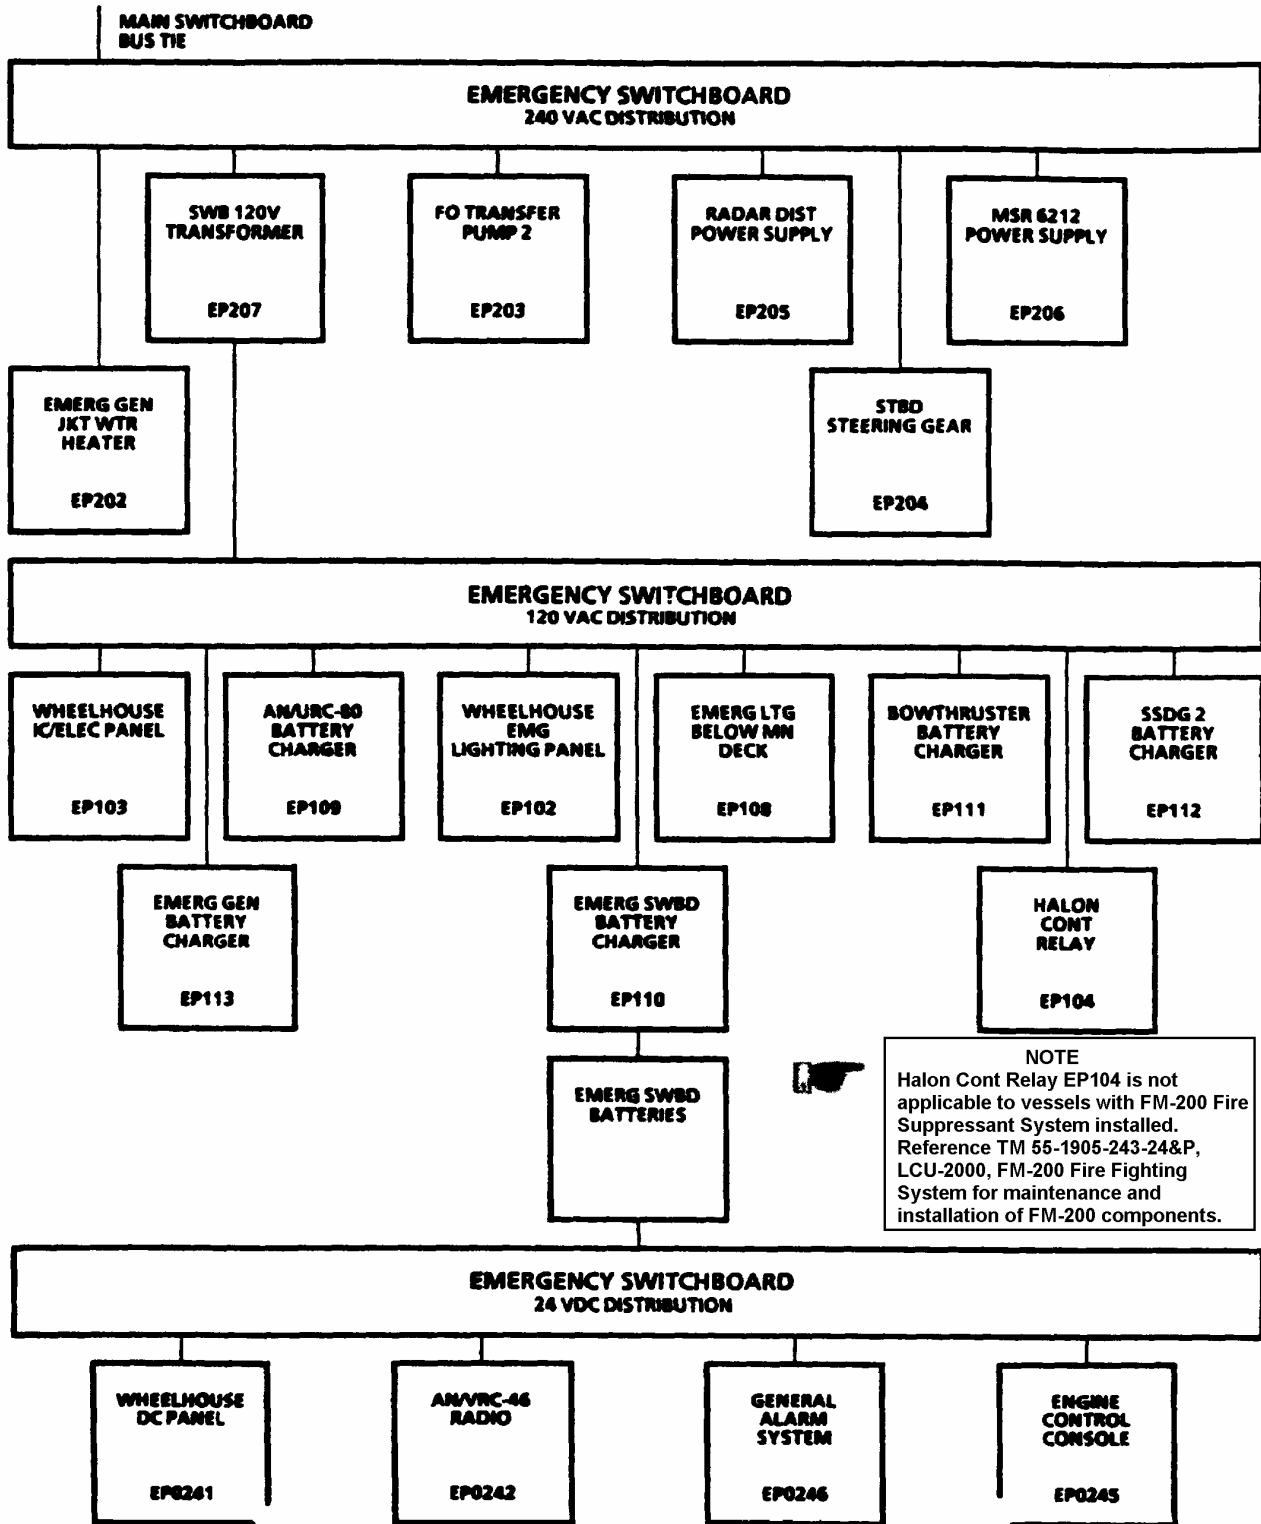

Figure 1-3. Emergency Switchboard.
d. Emergency Switchboard. The emergency switchboard (FIGURE 1-3), located in the emergency generator room, normally receives 240 Vac primary power from the main